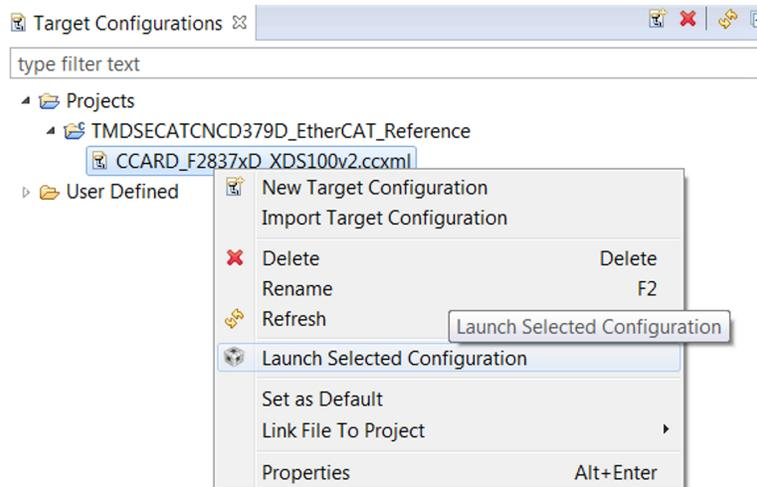

Figure 24. Launch Selected Configuration
- Launch target configurations by selecting the target configuration, as shown in Figure 24. The target configurations window is visible from view → Target Configurations option.